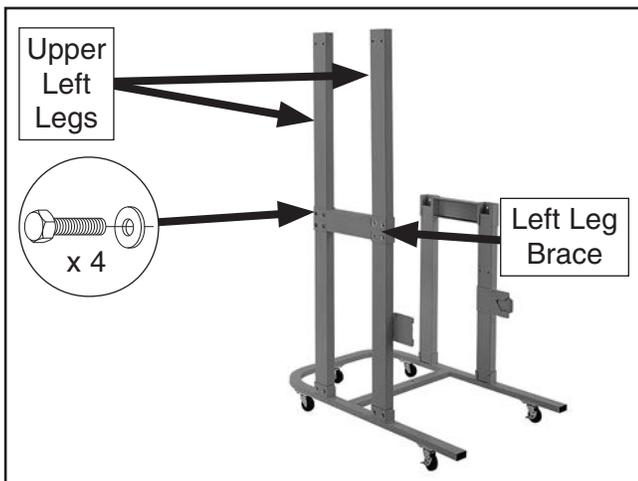

Figure 14. Upper left legs placed in left leg brace.
- Attach each leg to left leg brace using (2) $\frac{5}{16}$ "-18 x $\frac{3}{4}$ " hex bolts and (2) $\frac{5}{16}$ " fender washers (see **Figure 14**). Finger-tighten for now.